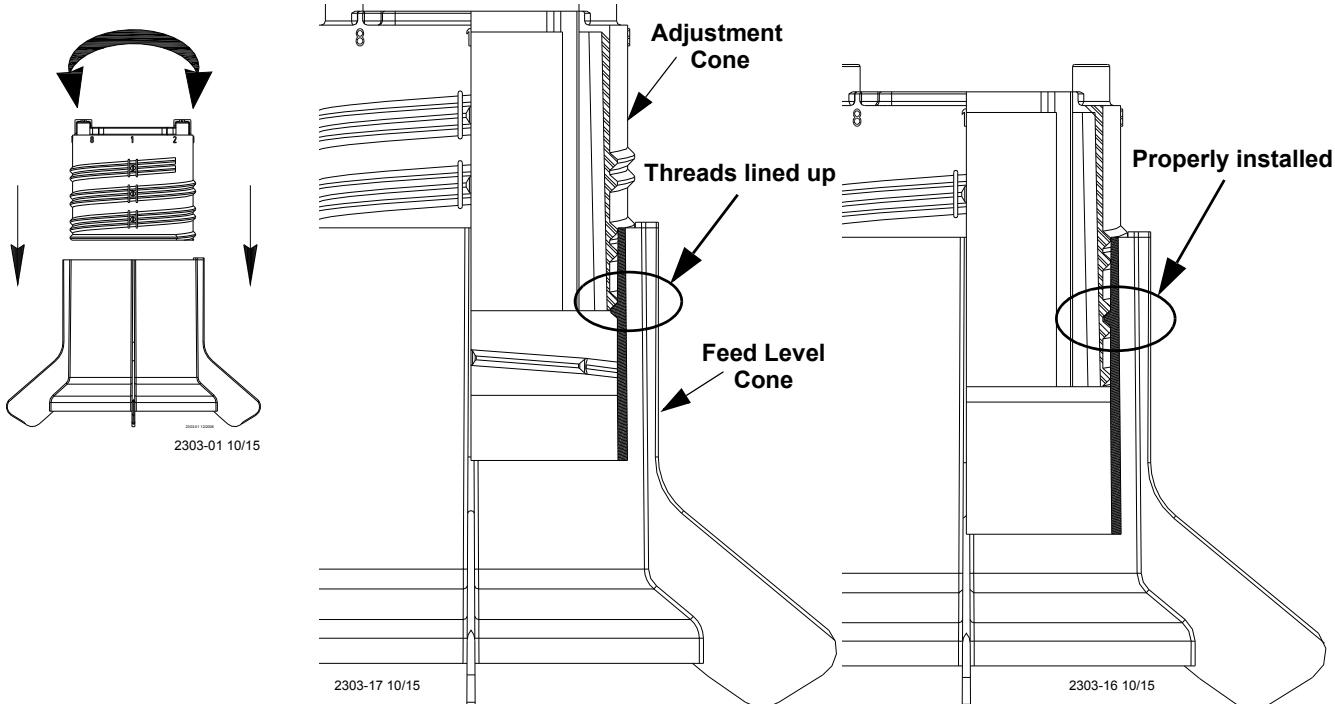

Figure 17. Cone Assembly
5. Assemble the feed level cone and adjustment cone as shown, See **Figure 17**.
- Screw the (2) two parts together and adjust to feed level #3.